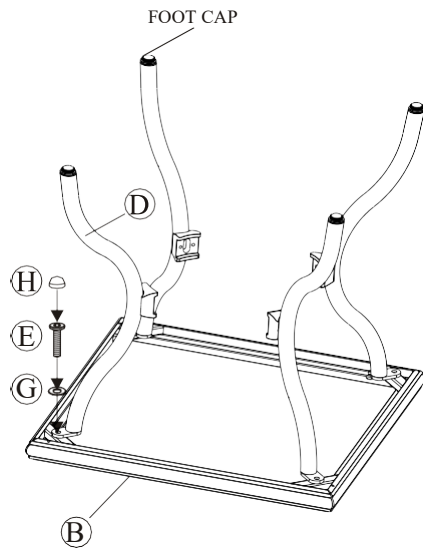

Figure 1
Step 2: Place the table rim upside down on a flat, non-abrasive surface. Attach a table leg to the table rim by using the 1/4 x 20mm bolt and washer as shown in **Figure 1**. Guide the bolt through the hole in the table leg into the pre-drilled hole in the table rim. **Hand tighten only 2-3 turns.** Repeat for the other three legs.